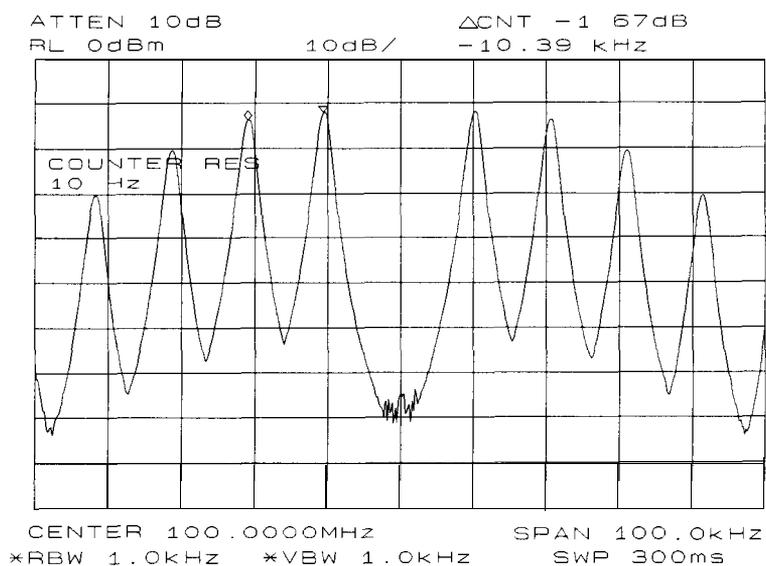

Figure 2-11. Markers Show Modulating Frequency
- b. Press **COUNTER ON OFF** so that **ON** is underlined, and use the delta count mode to read the difference between two sideband peaks (see Figure 2-11).